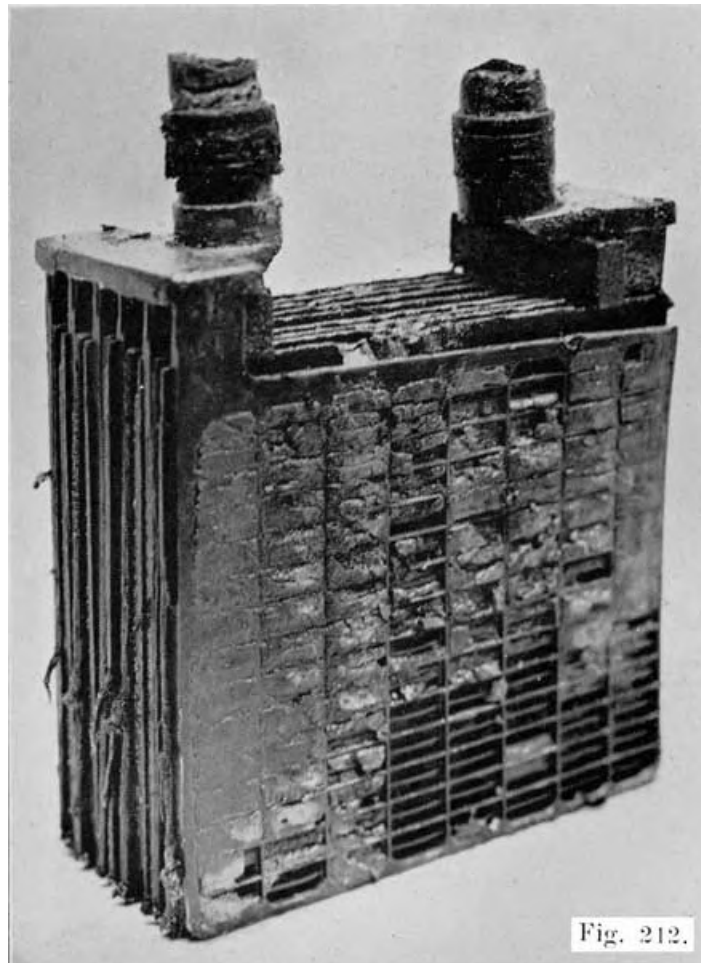

Fig. 212. Element from a "Slopper."
8. If a battery case is not held down firmly, or if the elements are loose in the jars, the plates will jump around when the car is in motion. This will break the sealing compound on top of the battery, and cause the battery to be a slopper. The active materials will be shaken out of the grids, as shown in Fig. 212, and the plates will wear through the separators. New plates are required.